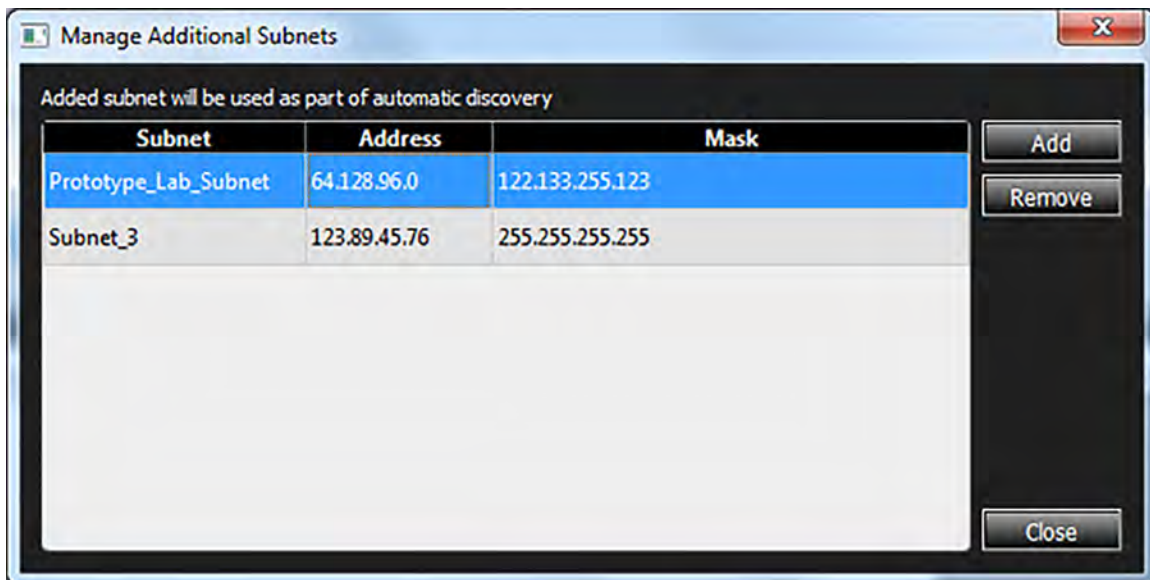

Figure 2.75: Updated Subnet Information
- c. Once you have completed the changes, click **OK**. An example of the changes can be seen in Figure 2.75.